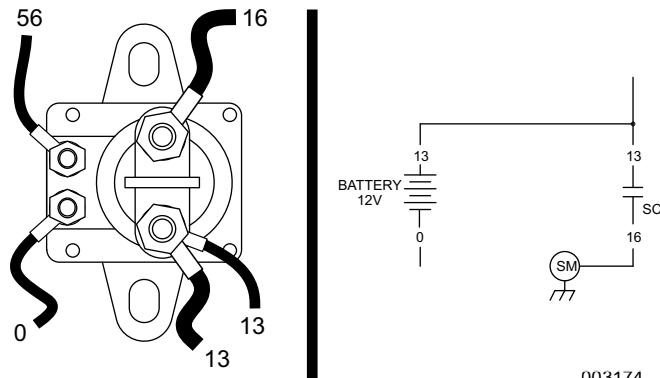

Figure 3-8. The Starter Contactor (410cc Single Cylinder Units)
See Figure 3-8. The Starter Contactor (SC) is located in the engine compartment and is mounted against the firewall. The SC provides the electrical connection to safely engage the starter.